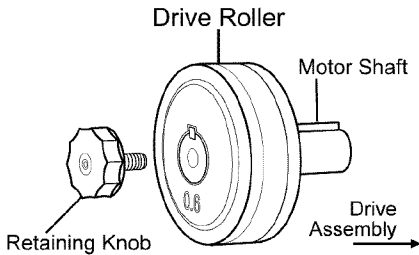

Figure 6. Drive Roller
Before installing any welding wire into the unit, the proper sized groove must be placed into position on the wire drive mechanism. Refer to Figure 6.
4. Locate the side of the drive roller that is stamped with the same wire diameter as that of the wire being installed (see Figure 6). Push the drive roller onto the motor shaft. Make sure the side stamped with the desired wire diameter is facing the Drive Assembly.